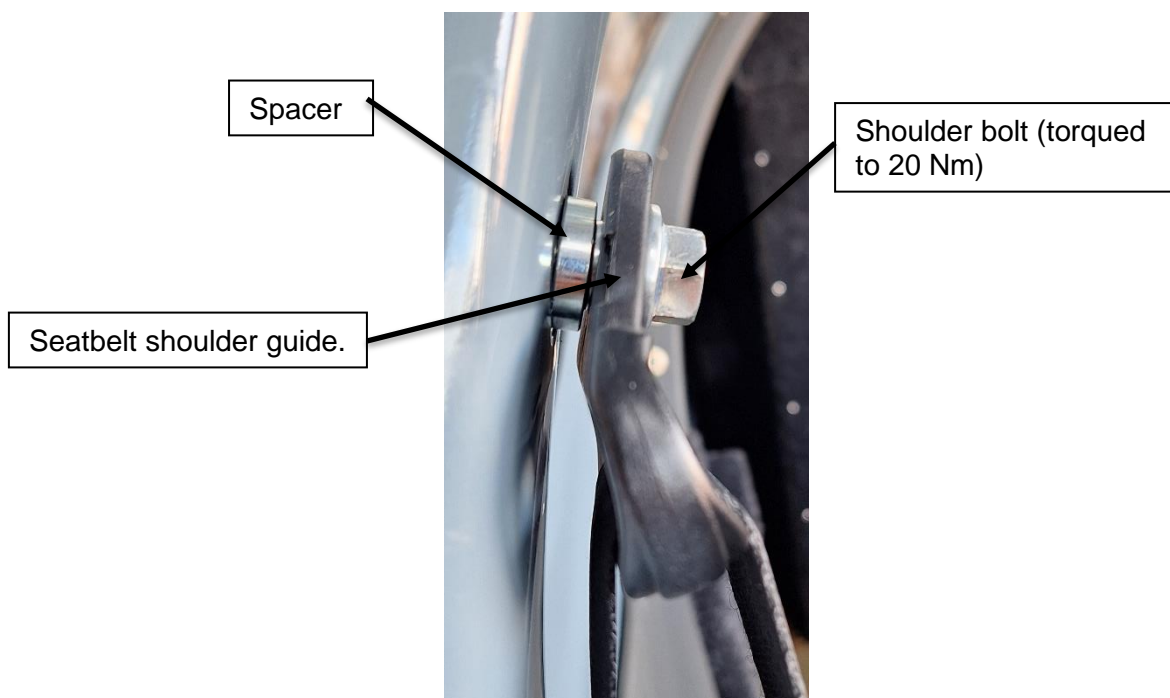

Figure 15: Seatbelt shoulder guide installation
Step 4: Install the bolt, spacer and shoulder anchor guide of the seatbelt as seen in Figure 15. Loctite 243, or an equivalent, should be used on the bolt thread to ensure it does not unscrew on its own. Torque the bolt to 20 Nm.